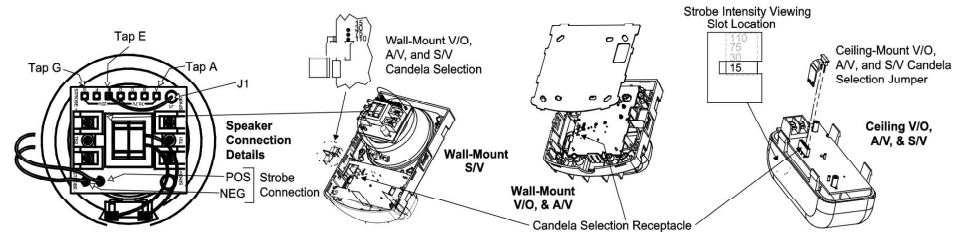

Figure 5: Strobe Candela and Speaker Tap Reference
- For S/Vs, run strobe assembly wire leads through the housing opening and attach to the terminal block assembly; Red to POS, Black to NEG. See Figure 5 for more detail.
- Speaker factory setting is 25 VRMS, 0.5 W (J1 to Tap E). Select speaker wattage setting per Figure 5.